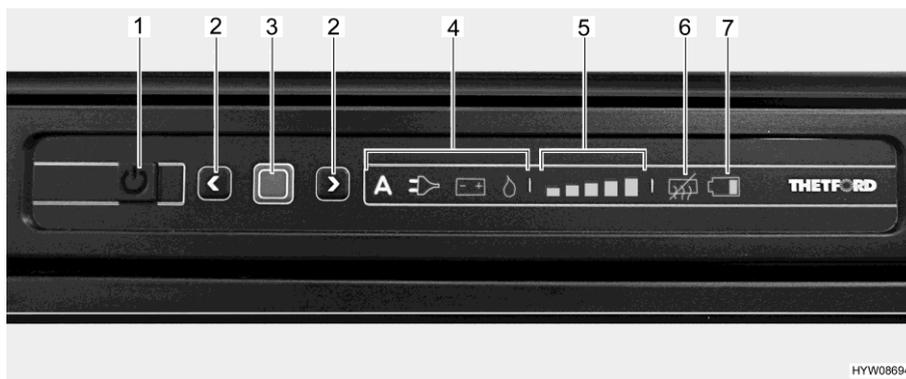

Fig. 249 LED operating panel (Thetford refrigerator)
- Press and hold the On/Off button (Fig. 249,1) for 1 second. The button lights up green. To save energy, after approximately 10 seconds the display is dimmed.
- Press confirmation button (Fig. 249,3). The operating mode previously selected is displayed.
- Press and hold the confirmation button (Fig. 249,3) for about 2 seconds. The operating mode symbols flash.
- Manual power selection: use the arrow keys (Fig. 249,2) to select the desired energy source.
- Automatic power selection (only version with automatic power selection): use the arrow keys (Fig. 249,2) to select the operating mode "A".
- Confirm your selection with the confirmation button (Fig. 249,3).
- Press confirmation button (Fig. 249,3) again. The cooling level indicator (Fig. 249,5) flashes.
- To change the setting, press the arrow keys (Fig. 249,2) until the desired setting is displayed.
- Press and hold the On/Off button (Fig. 249,1) for about 2 seconds. All lights go out. Refrigerator is switched off.
After switching it on, the refrigerator automatically selects the previously selected thermostat position. This position can be adjusted manually by using the arrow keys (Fig. 249,2). It takes a few hours till the refrigerator reaches its normal operating temperature. When changing over to another operating mode, the thermostat setting is kept.